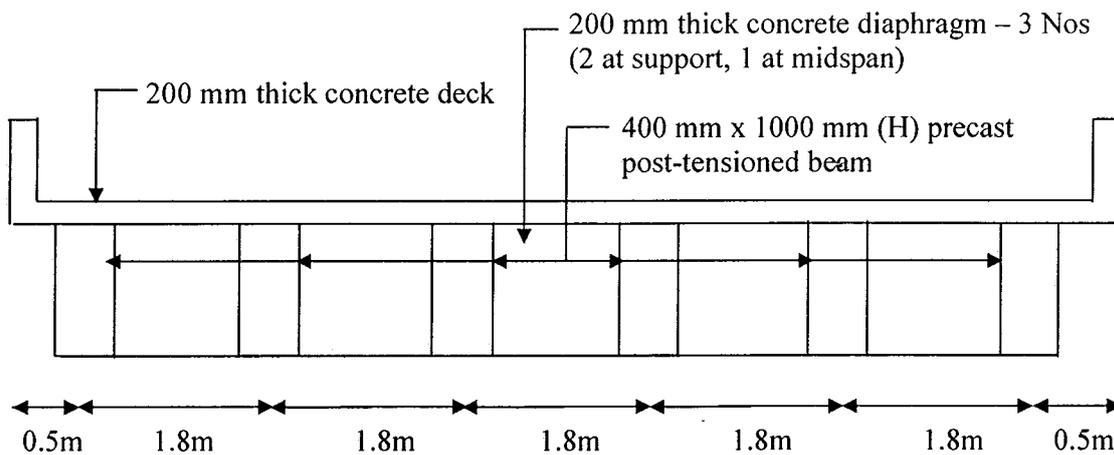

Figure 9 : Typical Cross Section
5. (a) An 18 meter single span non-skew bridge is subjected to a Knife Edge Load (KEL) exactly at the middle of the bridge span. Construct the equivalent grillage and provide marking for all major elements, sketch all critical sections, mark the notional lanes and disperse the KEL to the appropriate nodes. The cross section of the bridge is shown in Figure 9.